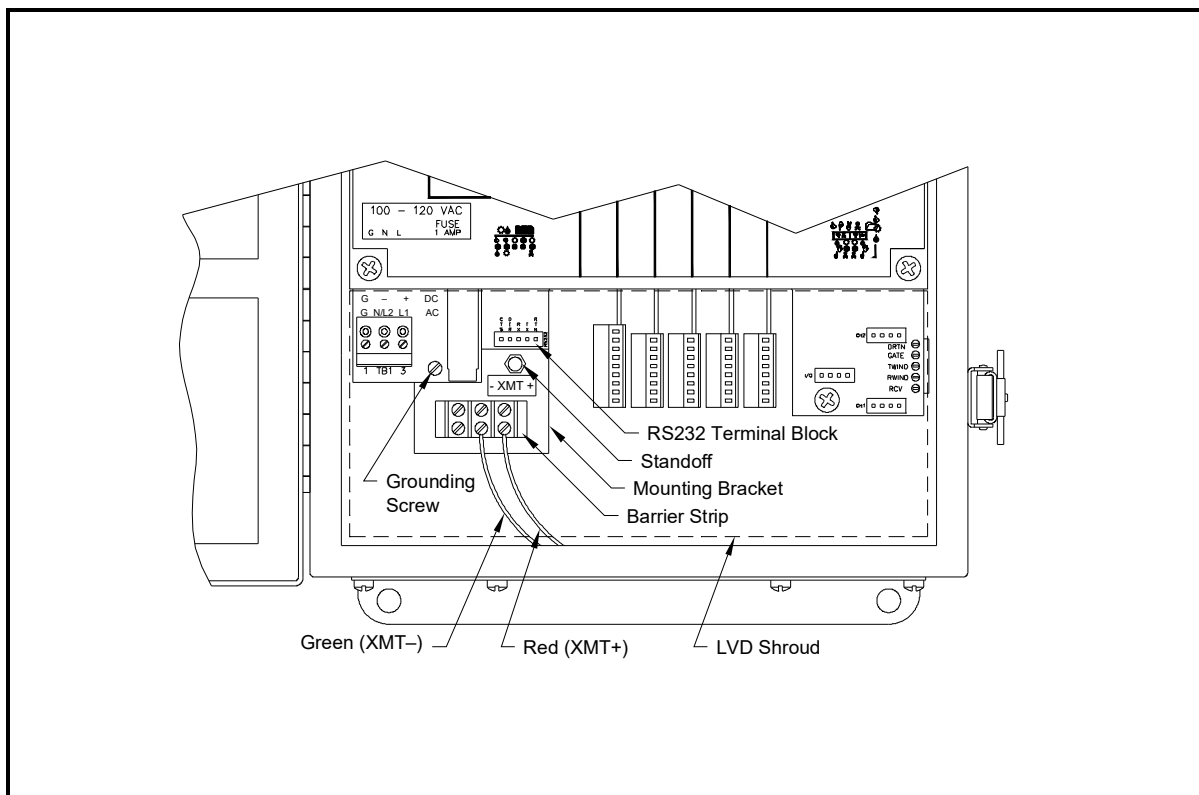

Figure 9: Interface Converter Mounting
A special bracket containing the serial interface converter and a three-terminal barrier strip is mounted inside the Model GF868, just below the RS232 terminal block (see Figure 9). The standard **RS232** terminal block is wired to the input of the serial interface converter, and the RS485 output of the serial interface converter is wired to the barrier strip.
Standard factory wiring of the RS485 serial interface is configured for point-to-point wiring. That is, a single Model GF868 may be wired directly to a single personal computer. To connect the RS485 serial interface, refer to Figure 9 on page 73 and complete the following steps:
3. Remove the serial interface converter **mounting bracket** by removing the standoff located just below the RS232 terminal block and the grounding screw on its left (see Figure 9 on page 73).